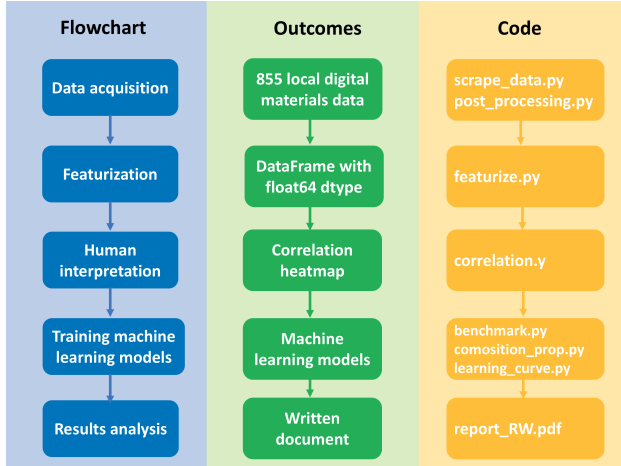

FIG. 1. Flowchart of the challenge project.
The challenge project mainly consists of five sections, i.e. data acquisition, featurization, human interpretation, machine learning model training, and result analysis. The flowchart and specific outcomes in each step are shown in Figure 1. The rest of this report will span these five sections into details of implementation and obtained results. Data is available at the author’s GitHub, the code can be found in supporting information (SI).